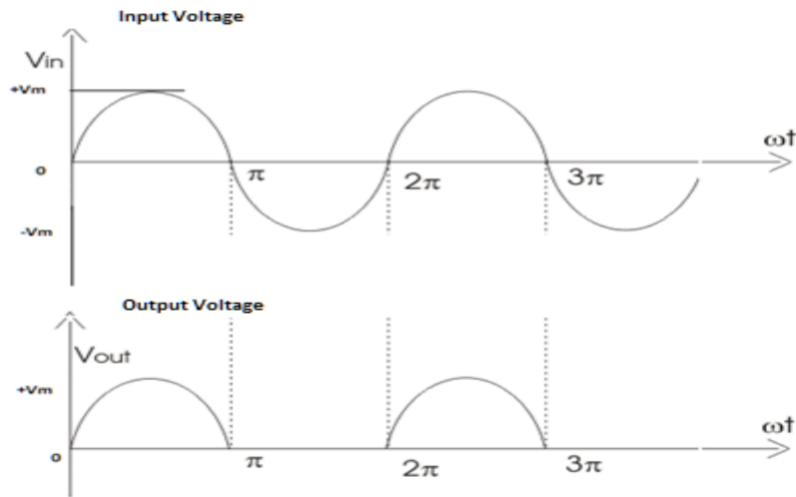

Fig 17b. Input and output waveforms of Half wave rectifier
- During the negative half cycle, the diode is reverse biased. The reverse biased diode behaves like open circuit, hence no current flows through the load resistor and load voltage is zero. Thus the current flows through the load only in one direction therefore, load current and hence output voltage is unidirectional. Therefore, the output is said to be rectified. The input and output waveform of half wave rectifier circuit is shown in figure 17b.